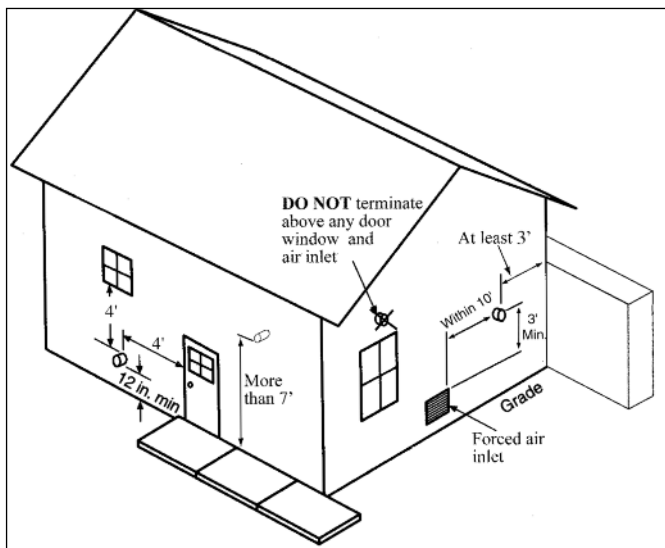

Fig. 15: Termination Clearances of Category IV System
5. The vent termination must also maintain the following clearances; as shown in Fig. 15.
5. The vent termination must also maintain the following clearances; as shown in Fig. 15 on page 26.